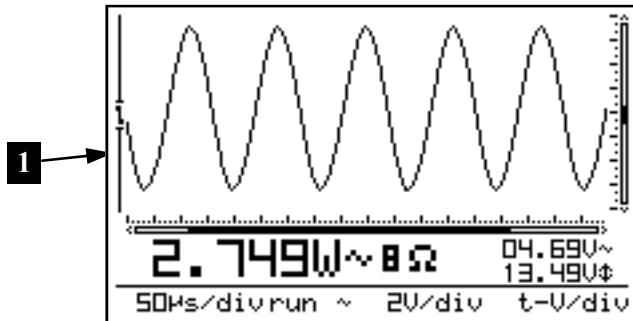

Fig 42
- Changing the timebase or sensitivity switches the autorange mode immediately off. (**Fig 42**)